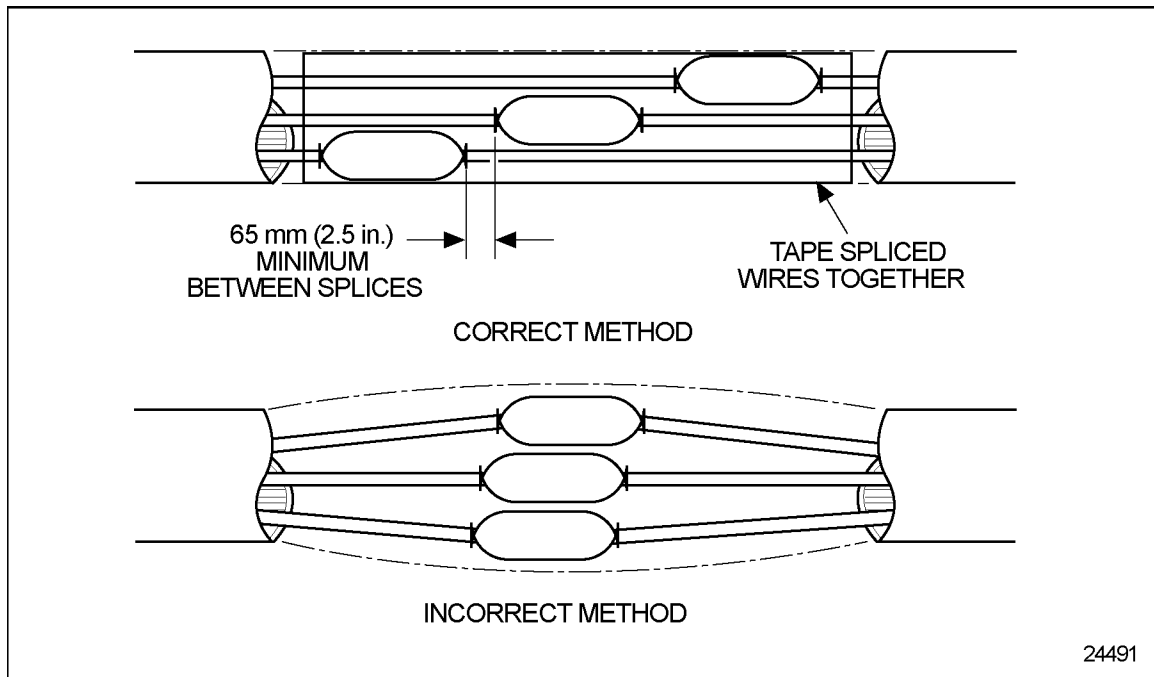

Figure 2-27 The Correct and Incorrect Method of Staggering Multiple Splices
1. Stagger the position of each splice (see Figure 2-27) so there is at least a 65 mm (2.5 in.) separation between splices.